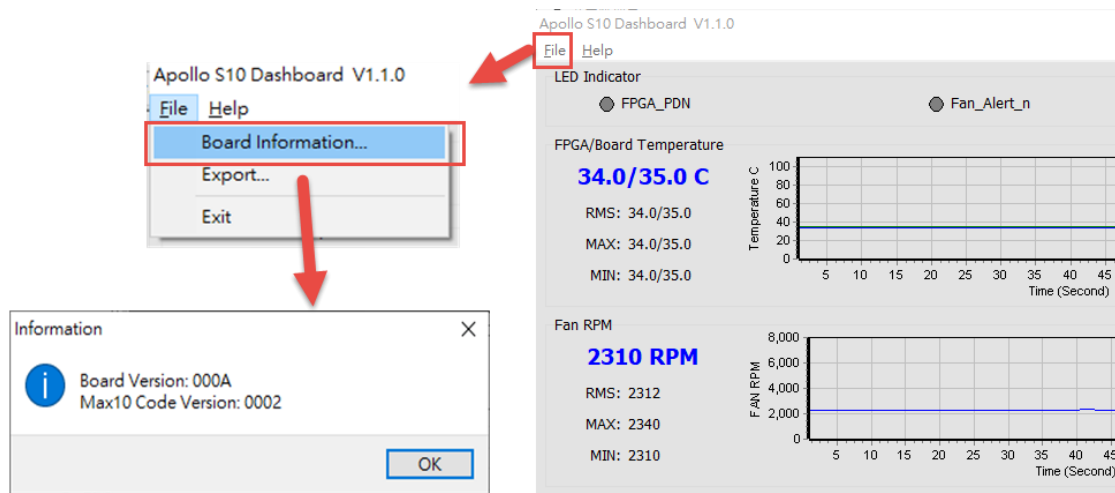

Figure 4-14 Board Information
- **Board Information:** There is a File page on the upper left of the Dashboard GUI program window, click the Board Information to get the current software version and the Apollo S10 board version, as shown in Figure 4-14.